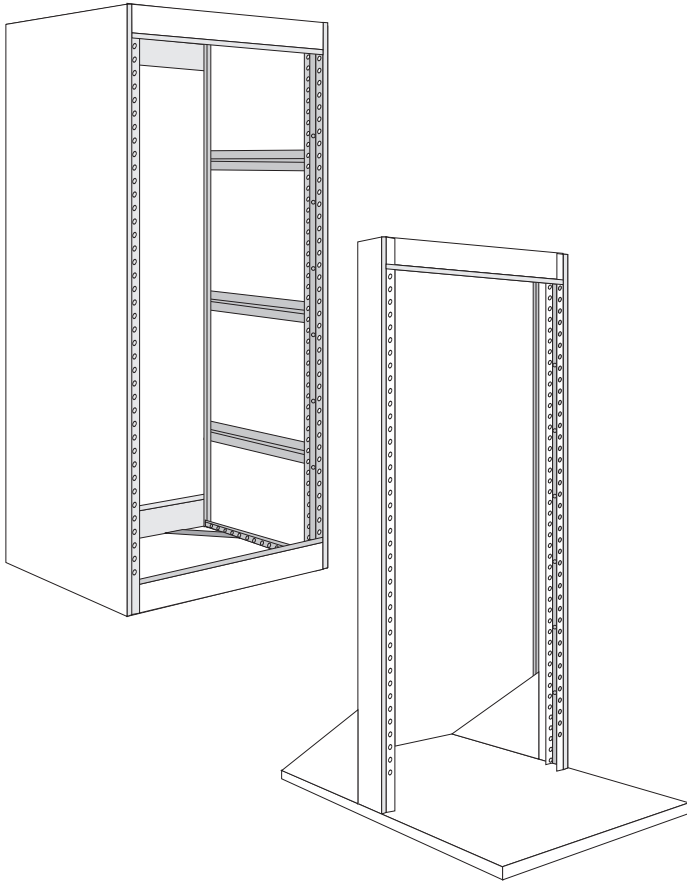

Figure B-2 Recommended Rack Styles
- Use an open style, 19-inch rack. The rack styles shown in Figure B-2 facilitate easy maintenance and provide excellent ventilation.